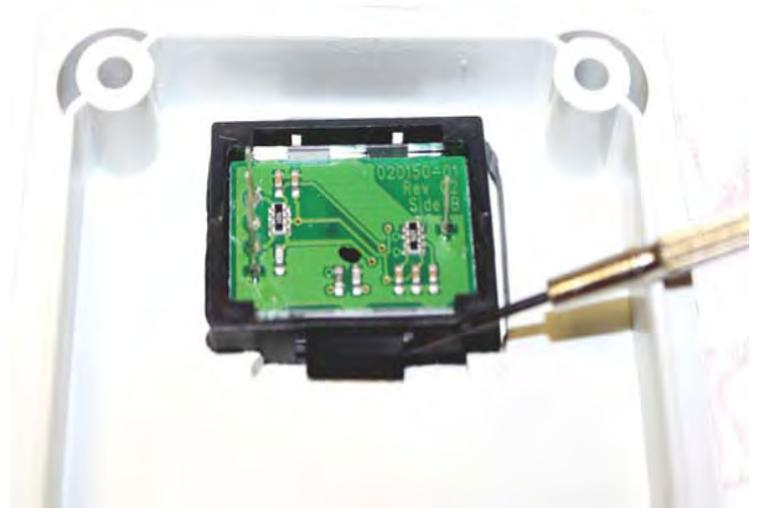

Fig 1
- 4) Insert the tip of a small flat head screw driver behind each edge of a tab and pry (fig 1).